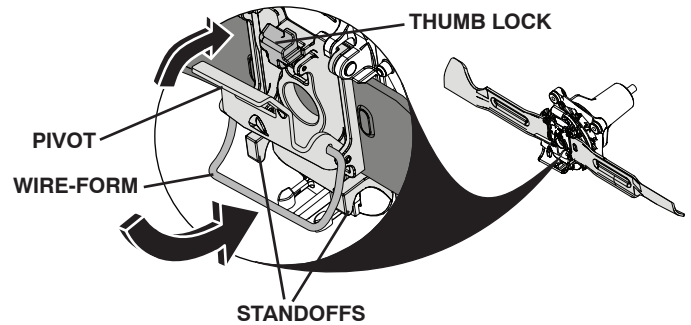

Fig. 34
- Push pivot closed until secured by the thumb lock. (See Fig. 34.)